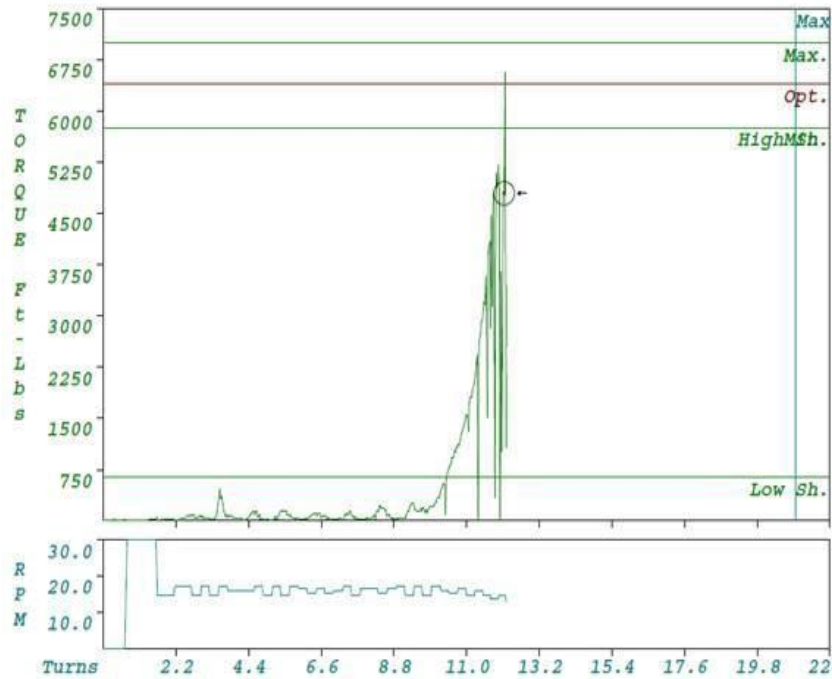

Figure 1: Example of a Bad Graph Due to Improper Equipment
- 8.5.11. Improper equipment can result in poor make-up graphs and damage to the connection. See Figure 1.